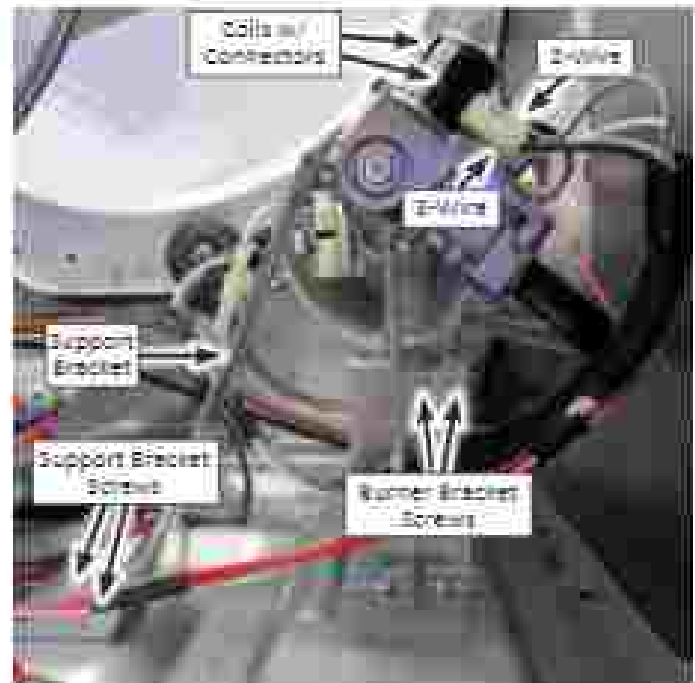

Figure 3 - Burner Screws and Connectors
6. Disconnect the 2-wire and 3-wire connectors from the burner coil assembly terminals (see Figure 3).
7. Remove the two screws from the burner support bracket and remove the bracket from the burner (see Figure 3).